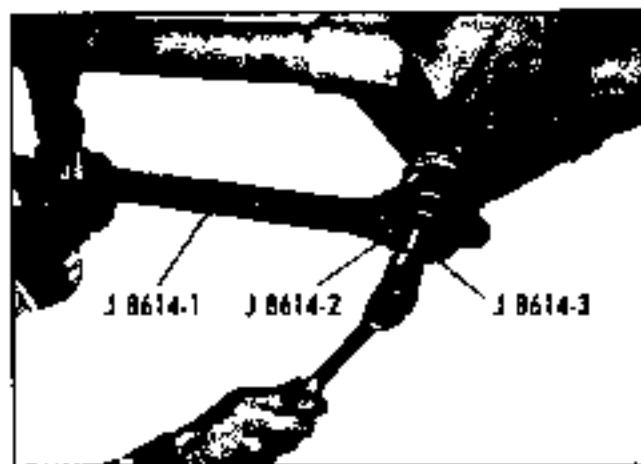

Fig. 4A-34 Removing Companion Flange
2. If replacing front pinion bearing, install new outer race by using installer J 8611-Q1-P, J 7817-T, F, or G-P, with driver handle J 8092 (Fig. 4A-37).